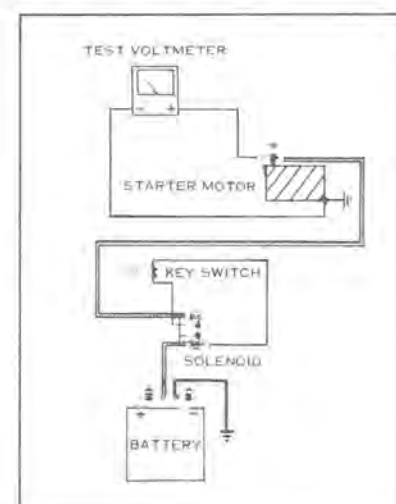

Figure 7-35
- c. Connect a voltmeter across starter motor (see Figure 7-35), with positive (+) lead to starter motor terminal, and negative (-) lead to ground on starter frame.